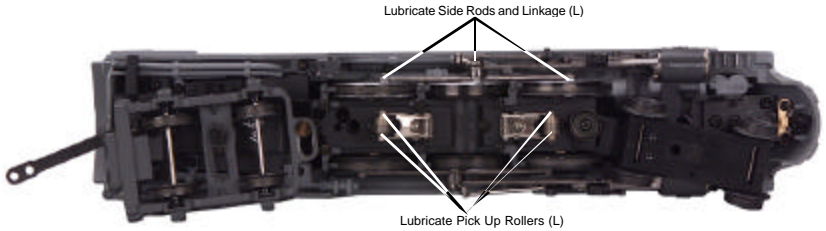

Figure 6. Lubrication Points on the Locomotive
1. Although the engine was lubricated at the factory, you should lubricate all side rods and linkage components and pickup rollers to prevent them from squeaking. Use light household oil and follow the lubrication points marked "L" in Fig. 6 on pg. 12. Do not over-oil. Use only a drop or two on each pivot point
You should regularly lubricate all side rods and linkage components and pickup rollers to prevent them from squeaking. Use light household oil and follow the lubrication points marked “L” in Fig. 6. Do not over-oil. Use only a drop or two on each pivot point.